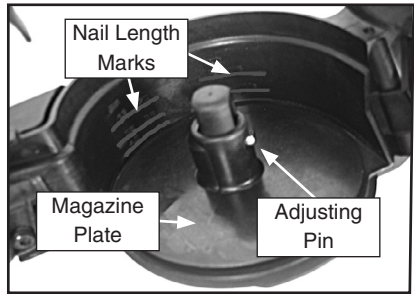

Figure 8. Positioning the magazine plate.
- Press the adjusting pin inside the magazine and slide the plate up or down until the plate position matches the nail length (Figure 8).